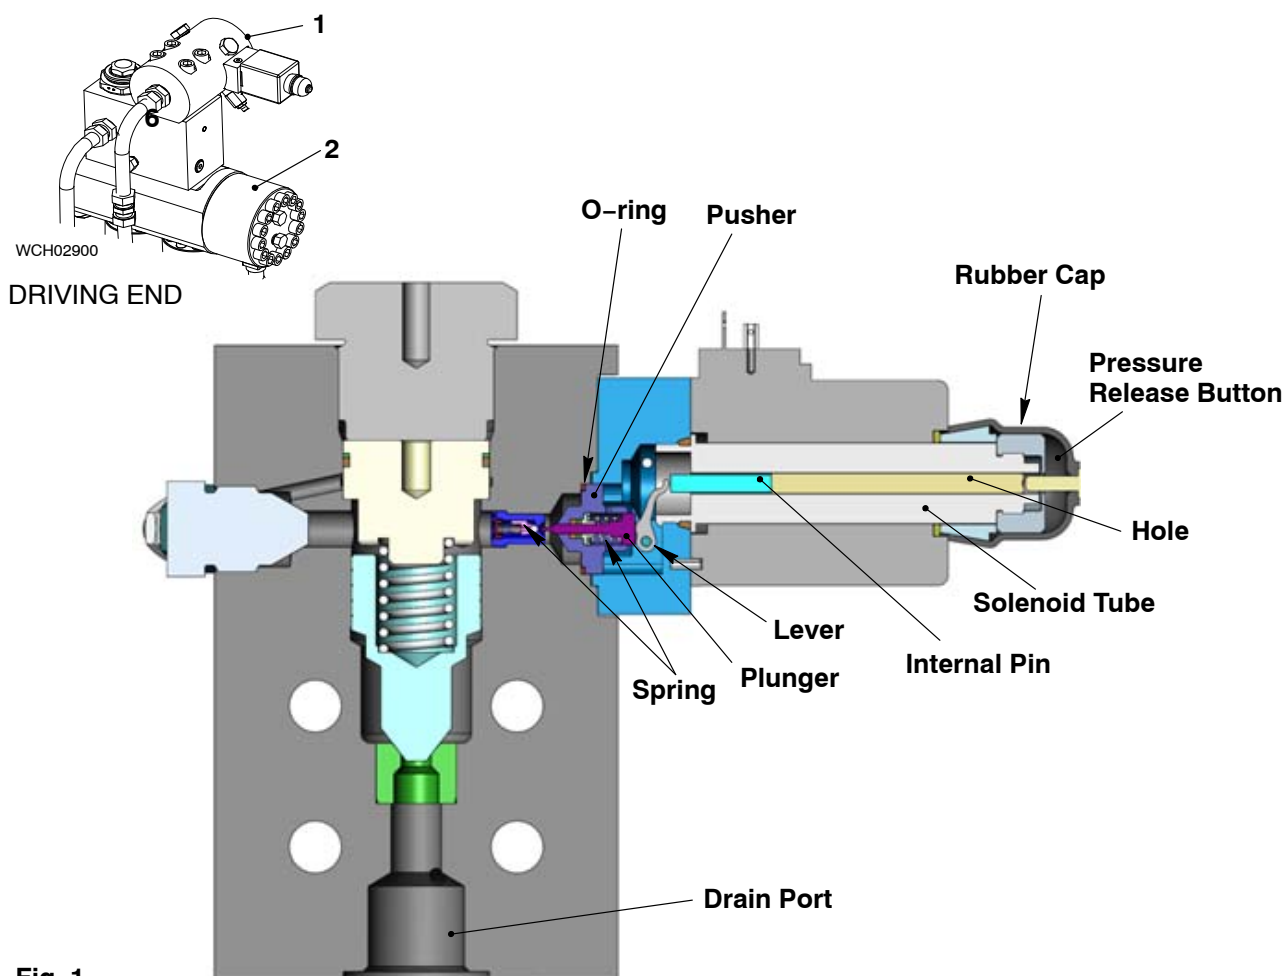

Fig. 1
- 8) Attach the fuel return pipe (5, Fig. 1) to the PCV (1).
- 9) Tighten the angle union (7).
- 10) Connect the electrical connection to the solenoid valve (2).
**Note:** It is not necessary to remove the PCV (1, Fig. 1) from the fuel rail (2) to do this procedure.
- 2) Make sure that the PCV (1) is open.